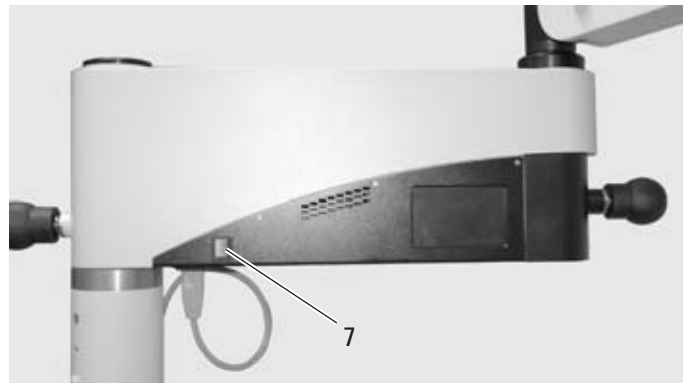

Fig. 3
- ⇒ Connect the Leica M620 surgical microscope to the power supply and switch on the power switch (7) (Fig. 3).